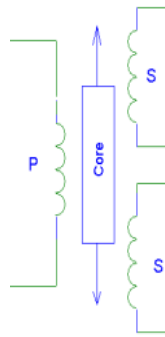

Figure 1. Linear variable differential transformer (LVDT).
Introduction: Linear variable differential transformers (LVDT) convert position of a soft iron core into an electrical signal. The circuit diagram in Figure 1 shows that the LVDT consists of a transformer with a primary coil P coupled to two secondary windings S. The identically wound secondary coils are positioned on the same linear axis as the primary but are symmetrically displaced from each other above and below the mid-span of the primary's axis. Motion of the soft iron core through the LVDT changes the magnetic coupling between the primary input and each of secondary outputs. The differential size of the secondary outputs can be used to monitor the linear displacement of the core.
- a. Copy of Figure 1 with the color of each wire identified.